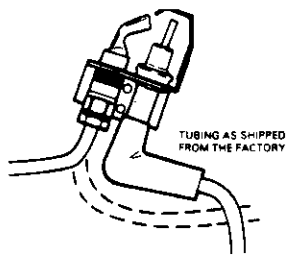

Figure 31 (4-047)
7. Reshape pilot tubing. See Figure 31. Be careful when you bend tubing. Do not kink. Install pilot burner on opposite side of burner rack using screws during removal.